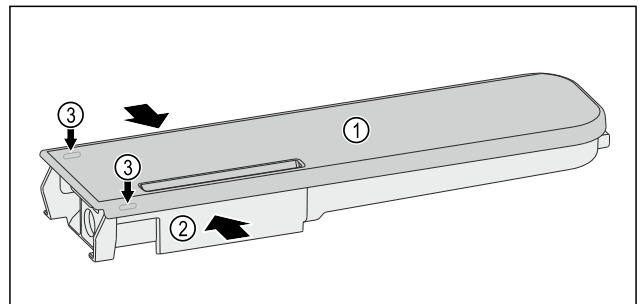

Fig. 155
- ▶ Push the water tanks Fig. 155 (2) together, leverage the cover Fig. 155 (1) carefully over the latching tabs Fig. 155 (3) and lift it up.
- ▶ Move the cover Fig. 155 (1) slightly forwards and back, and remove to the top.